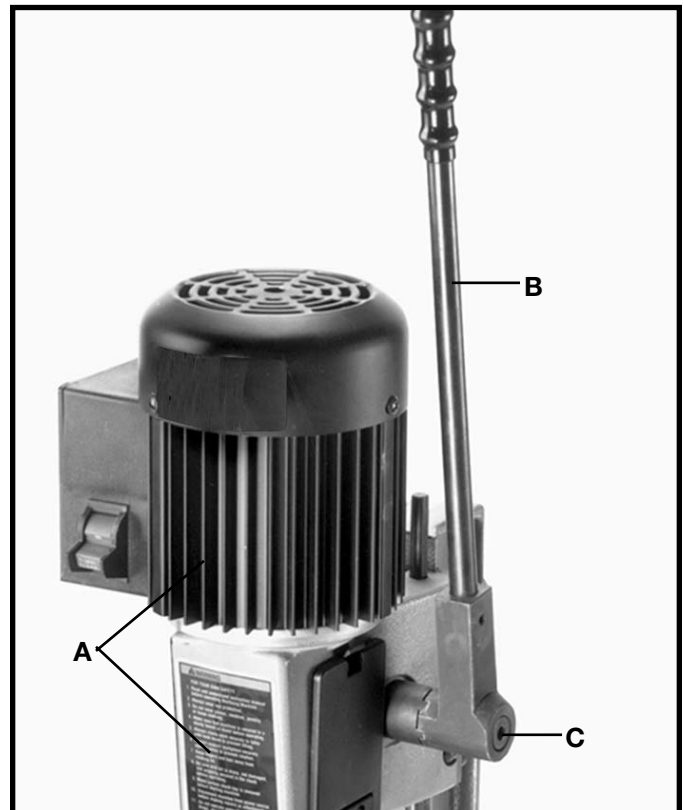

Fig. 28
The head (A) Fig. 28, is raised and lowered by means of the lever (B). For maximum leverage during the mortising operation, the lever (B) can be repositioned by pulling out the hub (C) of the lever assembly and repositioning hub on the pinion shaft.